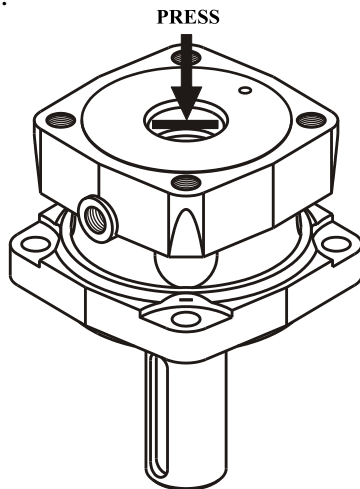

Fig.6
11. Fix Housing in a hydraulic press and push output shaft with bearing kit out of housing (Fig.6).
5. Place Front Cover with the hole $\varnothing 65$ mm upwards on the hydraulic press table. Lubricate the surface $\varnothing 65$ with hydraulic oil. Place the shaft seal and stave it using a hydraulic press. Turn on 180° and stave dust seal. Lubricate the O-ring and fit it to the front cover (see Fig.6).